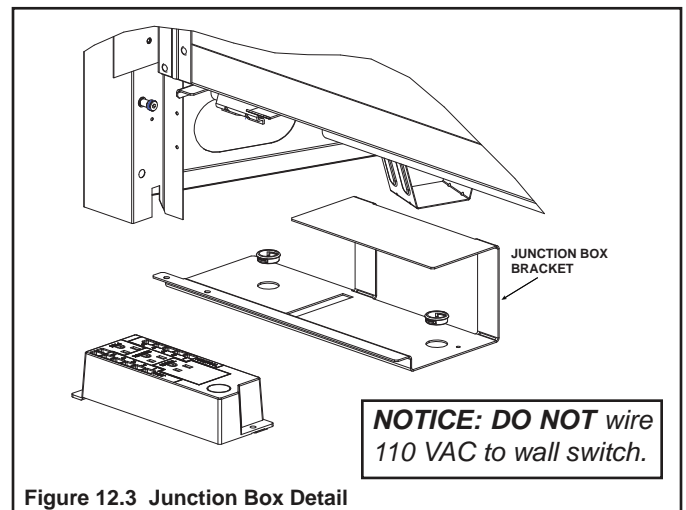

Figure 12.3 Junction Box Detail
3. Route the wire through the strain relief in the outer wrap and down through the strain relief on left side of the junction box bracket and up through the right strain relief. See Figure 12.3.